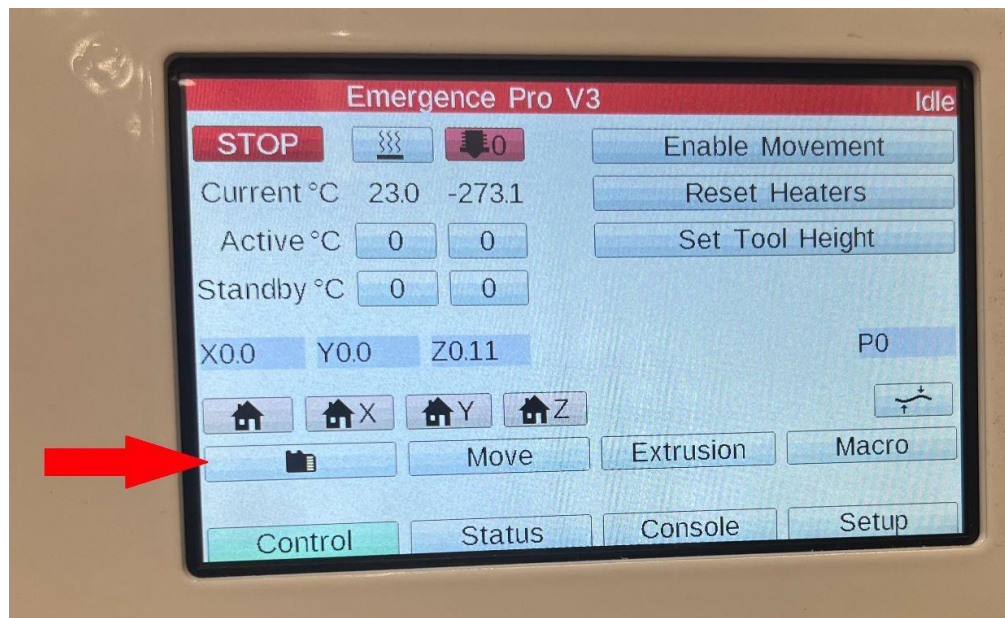

Figure 51: File Selection
1. On Printer Control Screen, press **File Selection** button (Figure 51).